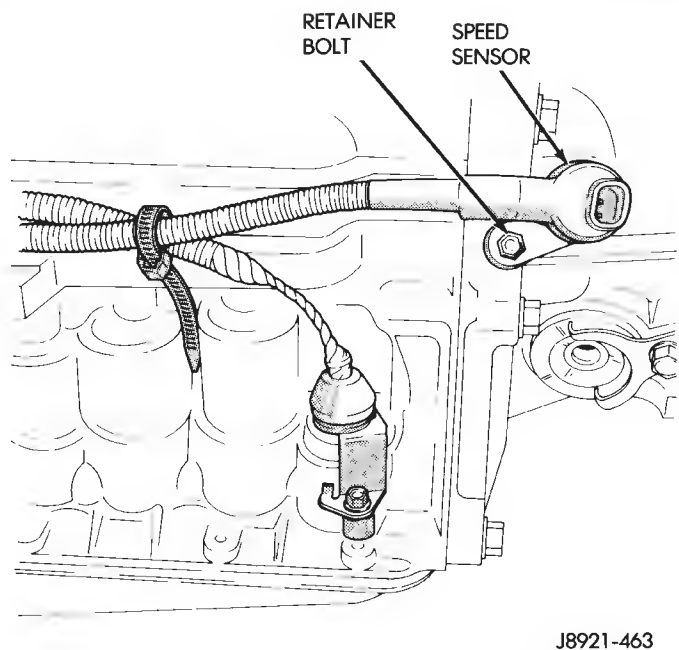

Fig. 38 Transmission Speed Sensor Removal/Installation
- (1) Disconnect sensor wire harness connector.
- (2) Remove sensor retainer bolt and remove sensor (Fig. 38).